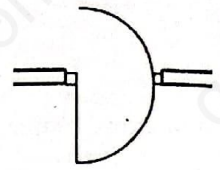

Figure 2
6. The figure 2 found on a floor plan is